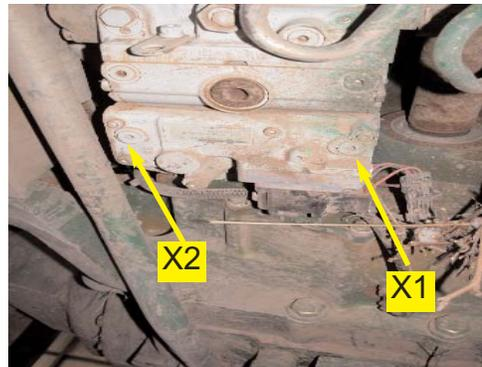

Figure 5a. Steering output location.
- a. Locate the X1 and X2 ports on the bottom of hydrostatic pump. (Figure 5a.)